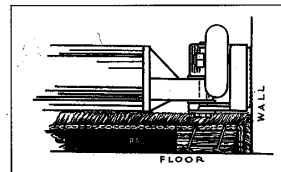

Figure 3
- E. Turning the tail block over to its flat side helps it stay put for multiple stretches (See figure 3.)